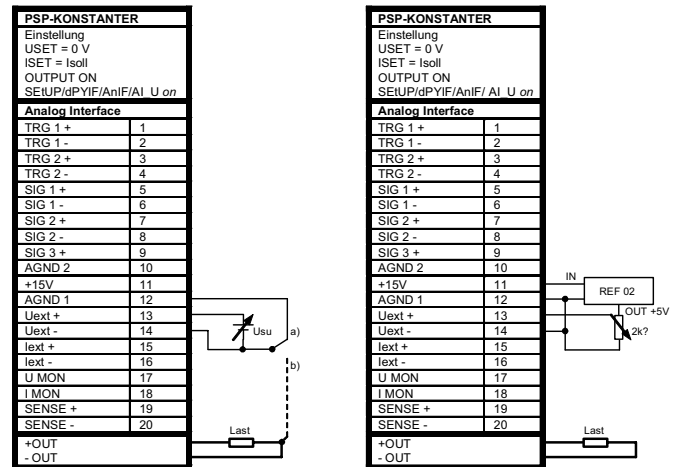

Figure 7.4 Wiring for Controlling Output Voltage with External Voltage / External Potentiometer
- The control inputs are not floating inputs: Their reference point, AGND (1), is connected to the negative pole of the power output.
- If the reference point of control voltage  $U_{su}$  is connected to the negative output pole at the load side, the inverting input must be connected to this point (connection b in figure 7.4). Influences resulting from voltage drops in the output lead are thus avoided.
- If control voltage is isolated from the output, connect  $U_{ext-}$  to AGND (1) (connection a in figure 7.4).
- If remote adjustment of output voltage is to be accomplished by means of a potentiometer, wiring can be laid out as shown in figure 7.4.